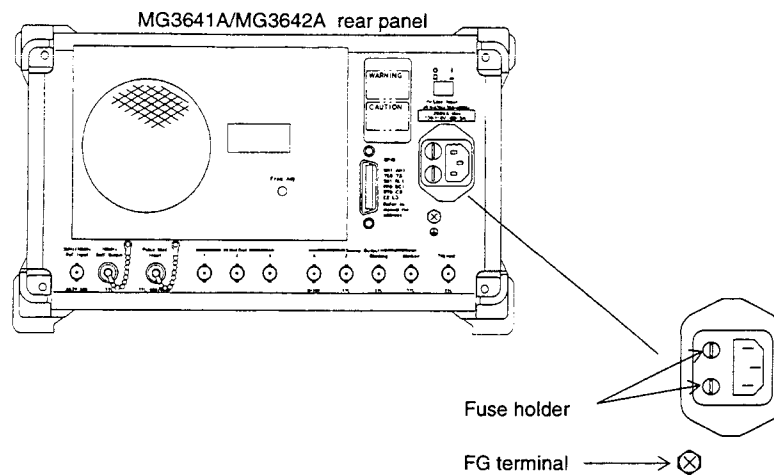

Fig. 2-2. FG Terminal
When a 3-pole AC outlet is not available and it is difficult to ground the green earth cable of the conversion adapter, ground the FG terminal directly to earth potential. See Figure 2-2.
The MG3641A/MG3642A is supplied with two 5 A or 3.15 A fuses shown in Table 1-2. The fuses are to be loaded inside the fuse holders shown in Figure 2-2.
2.	Turn the fuse-holder cap (see Figure 2-2) counterclockwise and remove the cap together with the fuse.